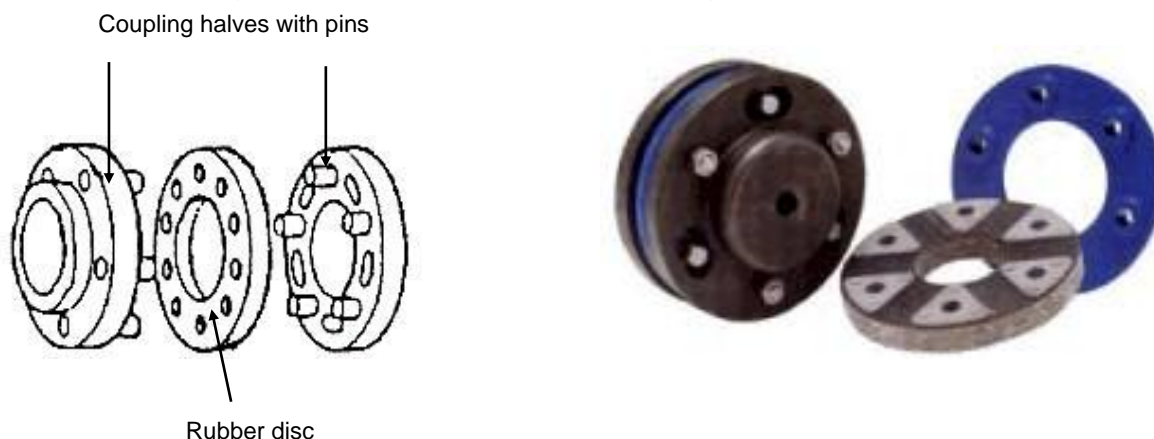

FIG 8.
- A. The rubber disc coupling (Fig 8) has pins equally spaced near its outer edge. The pins fit into compatible holes in a moulded centre disc.